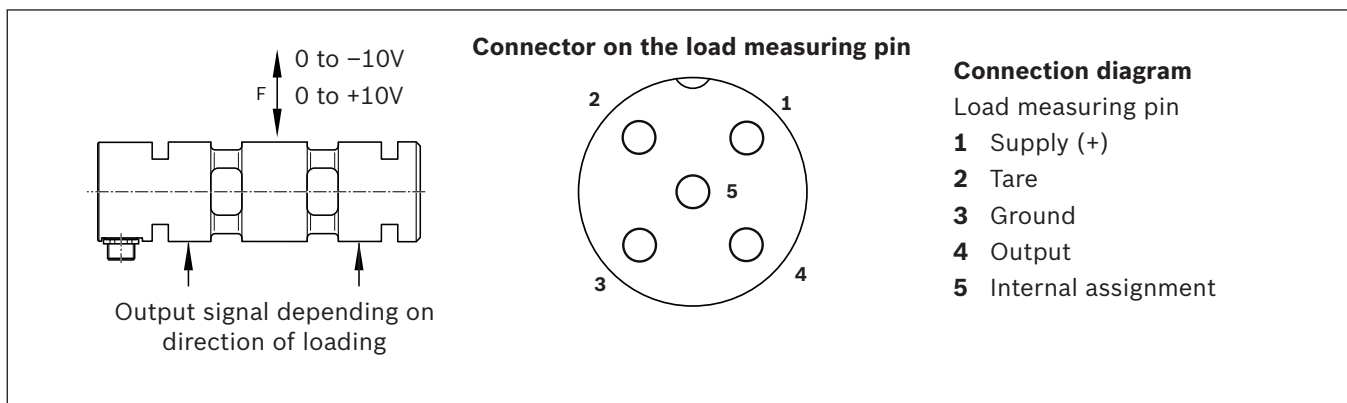

Fig. 11: Connecting the electrical power supply to the load measuring pin
3. Push the load measuring pin (1) by hand between the spherical rod end bearing (2) and the clevis bracket (3).
4. Use the included pin lock (4) to secure the load measuring pin (1) axially and against twisting on one side of the clevis bracket (3).
5. Align the electrical connection on the load measuring pin according to the application. Polarity of the connection ➔ Fig. 11 on page 16.